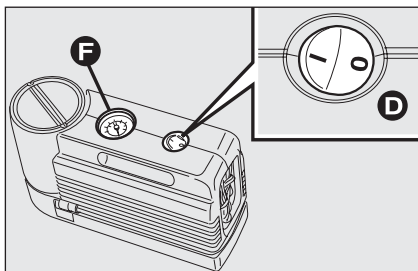
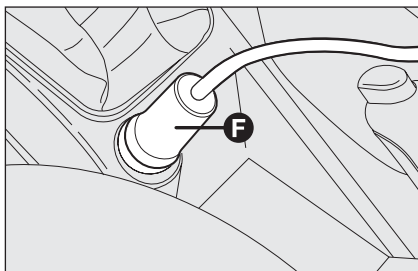

fig. 10
fig. 11
- make sure that switch **D-fig. 10** of the compressor is in position **0** (off), start the engine, plug into the nearest socket **E-fig. 11** and operate the compressor turning switch **D-fig. 10** to position **I** (on). Inflate the tyre to the pressure specified in the "Inflation pressure" paragraph, "Technical Specifications" chapter.
For a more accurate reading, check pressure gauge **F-fig. 10** with the compressor off;